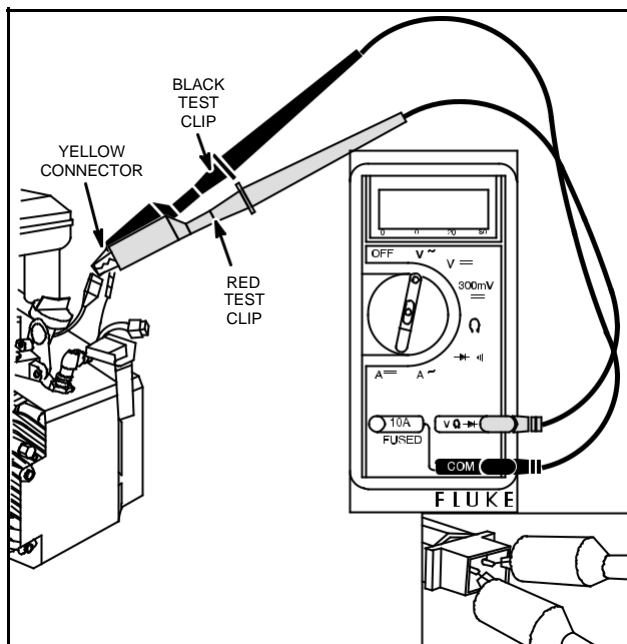

Fig. 24 – Testing AC Output
4. Insert RED and BLACK test lead probes into out-put terminals in yellow connector, as shown in Fig. 24. (Meter test clip leads may be attached to either terminal.)